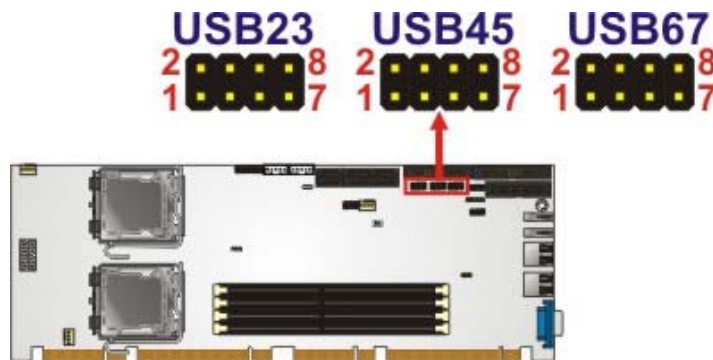

Figure 3-16: USB Connector Pinout Locations
- CN Location:** See Figure 3-16